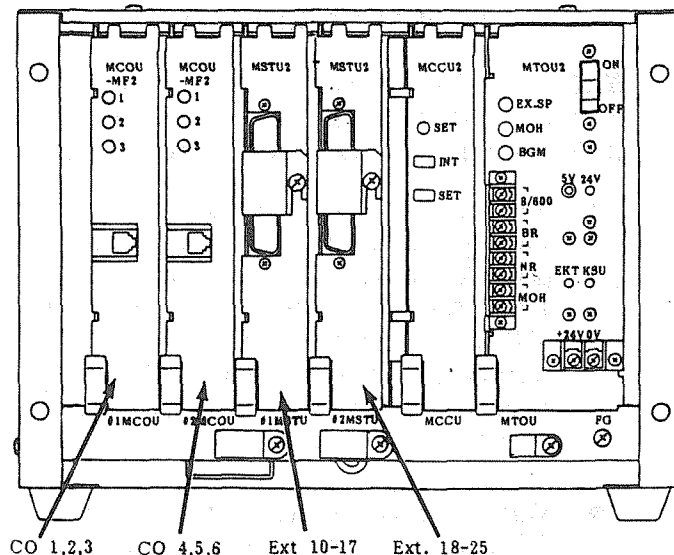

FIGURE 6
06.12 Install the MTOU PCB in the MKSU as shown in Figure 6.
06.33 Install the MCCU in the correct MKSU position (Figure 6).
06.34 Follow the position arrangement in Figure 6, and install the required MSTU PCB(s).
06.35 Select the proper type of MCOU PCB (MF or DP) and install the required number in the position(s) shown in Figure 6.